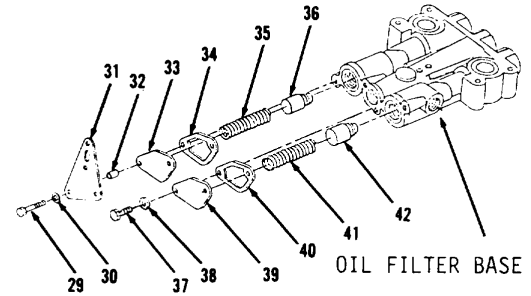

Figure 3-78.
8. Remove two bolts (29), washers (30), bracket (31) and two spacers (32, Figure 3-78) from oil filter base.
9. Remove cover (33), gasket (34), spring (35) and plunger (36). Discard gasket (34). Remove all gasket material from mounting surfaces.
10. Remove two bolts (37), washers (38), cover (39), gasket (40), spring (41) and plunger (42). Discard gasket (40). Remove all gasket material from mounting surfaces.
1. Install plunger (42), spring (41), new gasket (40), cover (39), two washers (38) and bolts (37, Figure 3-78) to oil filter base.
2. Install plunger (36), spring (35), new gasket (34) and cover (33).
3. Install two spacers (32), bracket (31), two washers (30) and bolts (29).